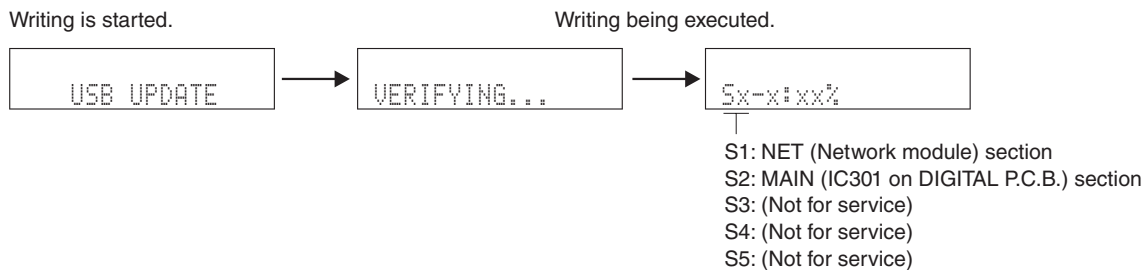

Fig. 2
- The USB UPDATE mode is activated and "USB UPDATE" is displayed. Writing of the firmware starts automatically. (Fig. 2)